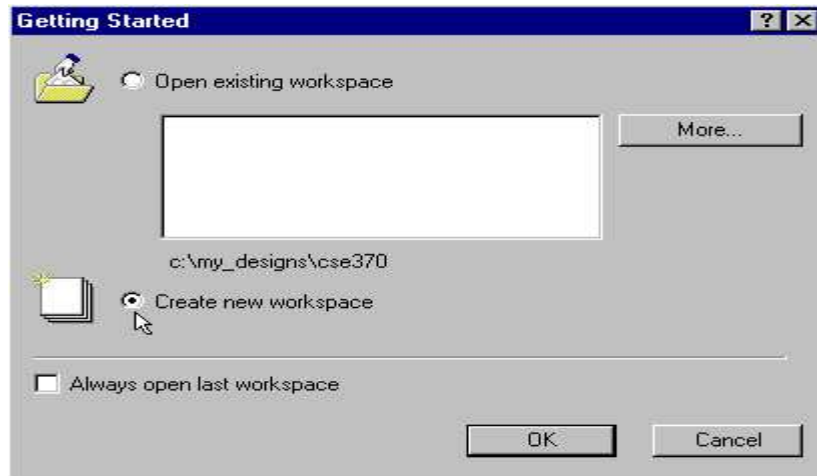

Figure 1
1. Select the “Create new workspace” option. This opens the New Workspace window (Figure 1).
1. The “More...” button allows you to browse for existing workspaces (see Figure 1 on the previous page). Click the “More...” to open the Workspace/Design Explorer window.